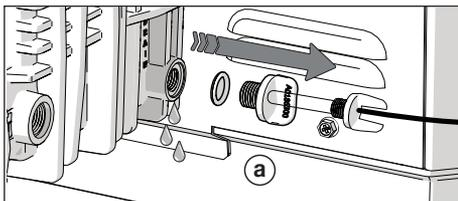

Figure 17. Remove Drain Plug/Temp Sensor
- a. Remove drain plug/outlet temperature sensor from header and allow all water to drain from heat exchanger, see Figure 17.